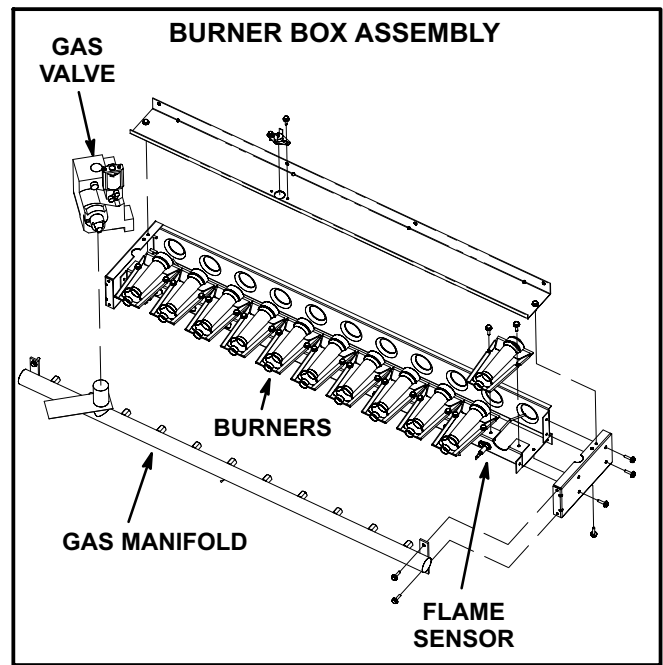

FIGURE 8
- 3- Remove two screws securing burners to burner support and lift the burners from the orifices. See figure 8. Clean as necessary. Spark gap on ignition electrode must be properly set. Refer to the Heating Adjustment section in the installation instructions.